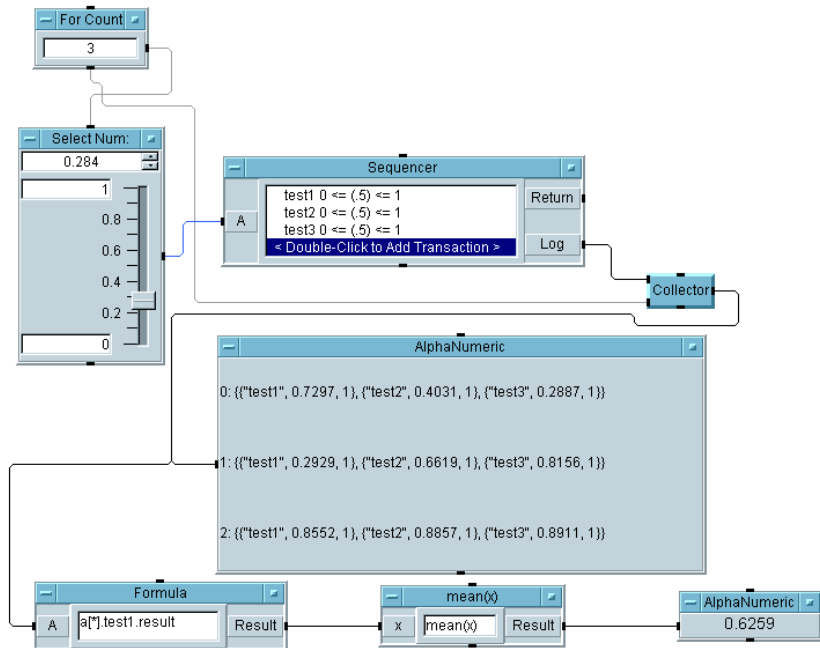

Figure 246 Analyzing Several Runs of **Sequencer** Data
- 5 Run the program. It should look like Figure 246.